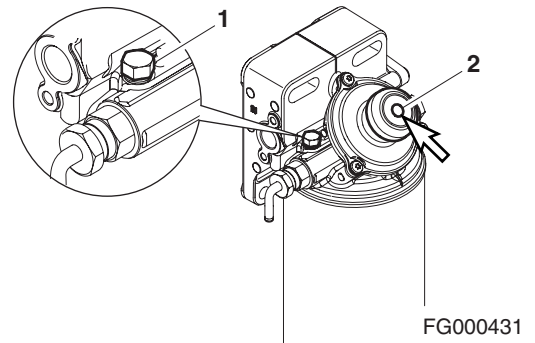

Figure 26
3. Loosen plug (1, Figure 26) on top of fuel filter head.
4. Pump hand operated primer pump (2, Figure 26) by the fuel injection pump. Pump primer until fuel is present at plug hole in fuel filter head.